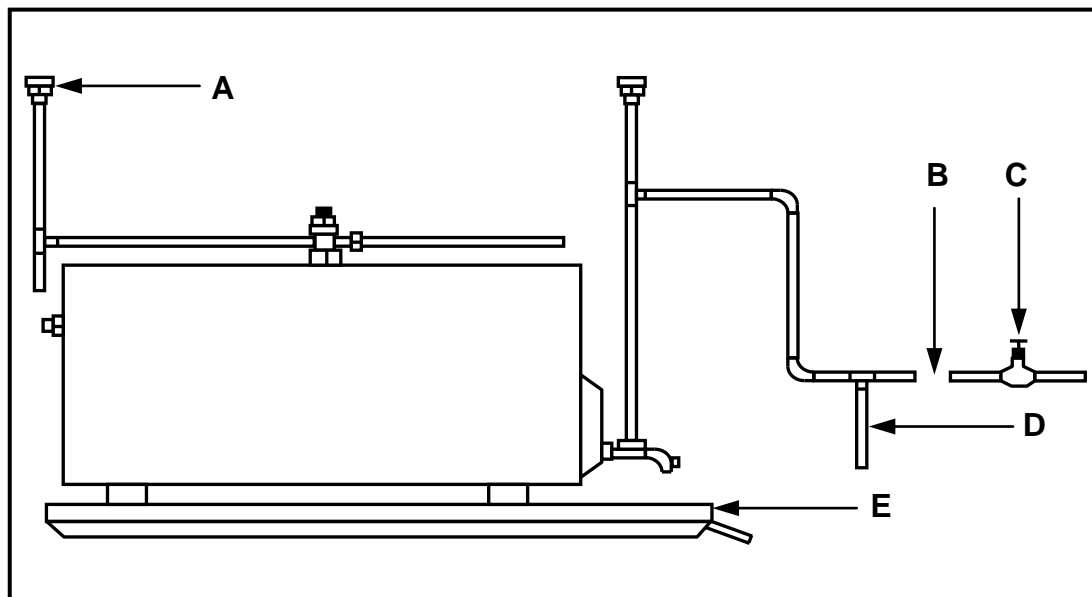

FIGURE 4.7
- 4.7 FIGURE 4.7 below shows a drawing of a high-pressure geyser installation. Study the drawing and answer the questions that follow.